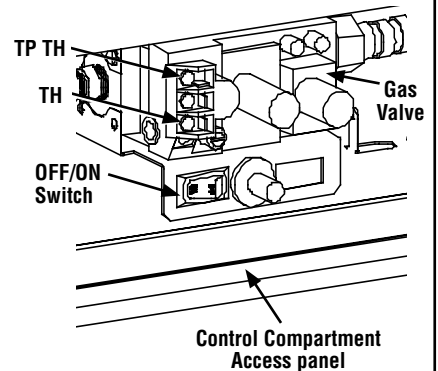

Figure 46
Ground supply lead must be connected to the wire attached to the green ground screw located on the outlet box. See *Figures 46 & 47*. Failure to do so will result in a potential safety hazard. The appliance must be electrically grounded in accordance with local codes or, in the absence of local codes, the National Electrical Code, ANSI/NFPA 70-latest edition. (In Canada, the current CSA C22.1 Canadian Electrical Code).
4. Wire and install the outlet receptacle to junction box, then install into the chosen corner of the control compartment as shown in *Figures 46, 47 and 49*.
IMPORTANT NOTE: The gas valve OFF/ON switch is shown in **Figure 46** on **Page 28**. It is integral with the gas valve and should be set to the **ON** position.